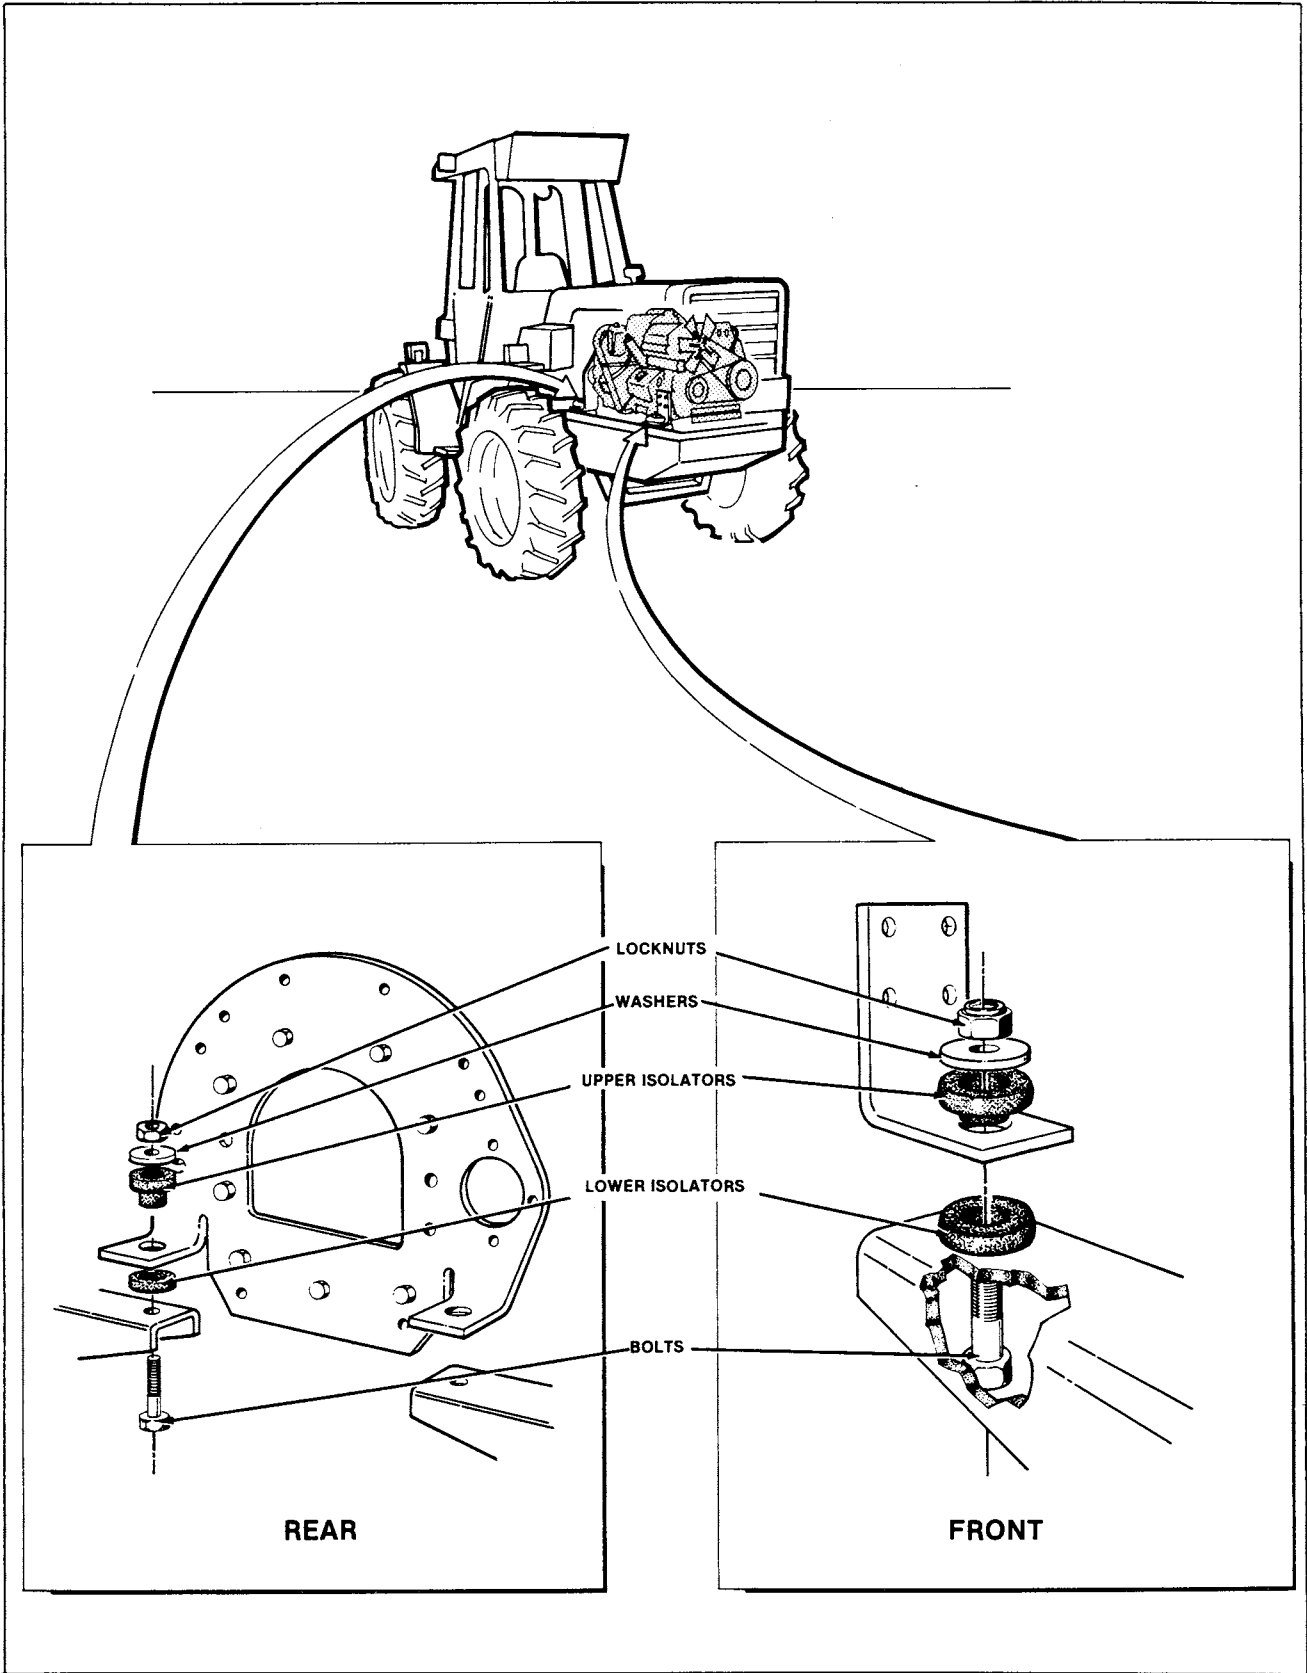

FIGURE 2-12: Engine Mount Assembly
4. Position isolators with a piece of wood (Figure 2-12).